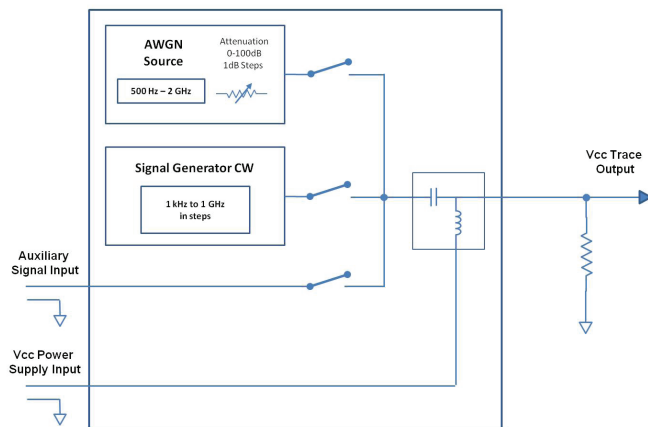

Figure 1. Noisecom Vcc Noise and CW Generator
Noisecom's JV9000 is a generator specifically designed to inject noise and deterministic jitter (DJ) signals into Vcc lines (see figure 1). The system is very easy to set up and requires in its basic setup only two connections: Vcc power to the Vcc input of the JV9000, and its output connected to the Vcc path of the DUT test board. The built-in noise generator offers an output noise power of 0dBm nominal and can be reduced in 1dB steps with a 100dB attenuator.